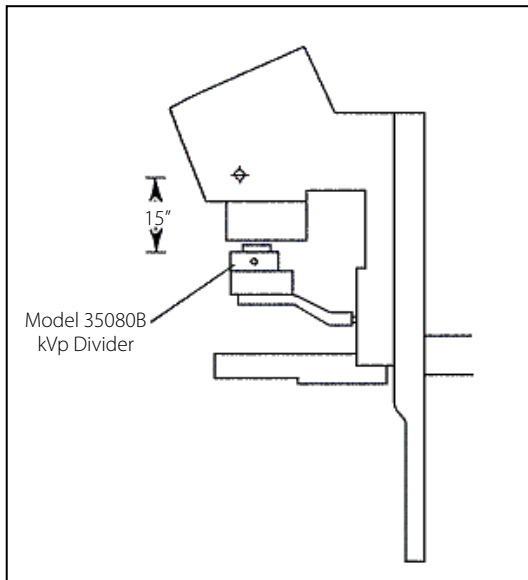

Figure 6-3. Linear Measurement Setup
1. Measurement Setup - Replace the Cadmium K-edge Mammo Filter Pack (37355) with the Linear Mammo Filter Pack (37351). Reposition the Model 35080B kVp Divider to approximately 15 inches from the focal spot by lowering the compression paddle or other support device (see Figure 6-3).